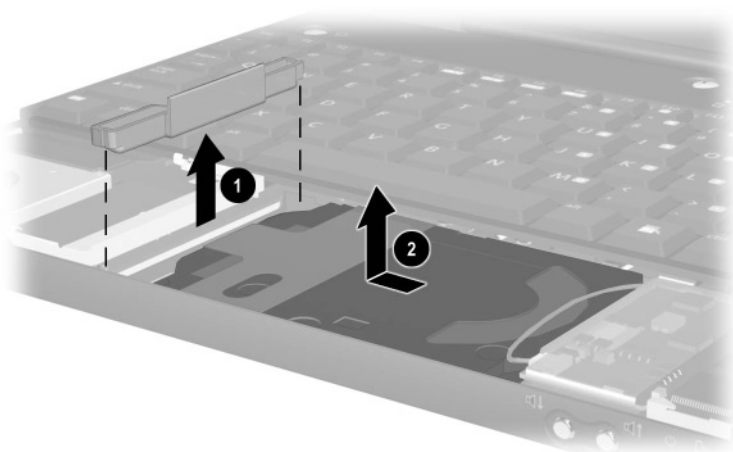

Figure 5-15. Removing the Hard Drive
3. Remove the hard drive spacer ❶ from the base enclosure (Figure 5-15).